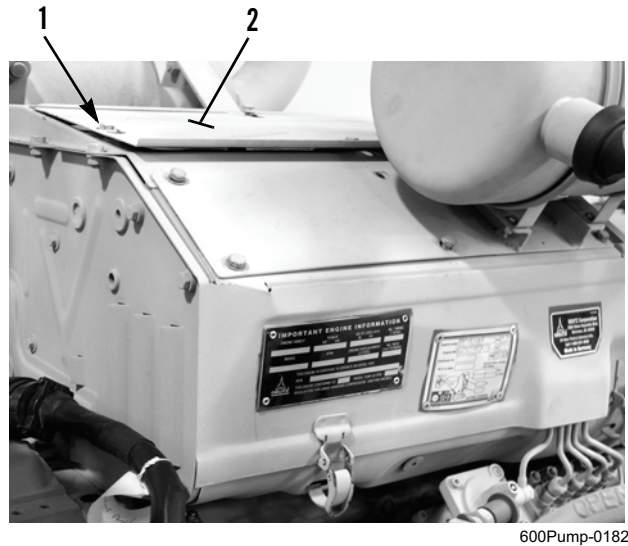

Figure 1. Upper Access Plate.
1. Remove four bolts (Figure 1, Item 1) and upper access plate (Figure 1, Item 2).
Install upper access plate (Figure 1, Item 2) with four bolts (Figure 1, Item 1).